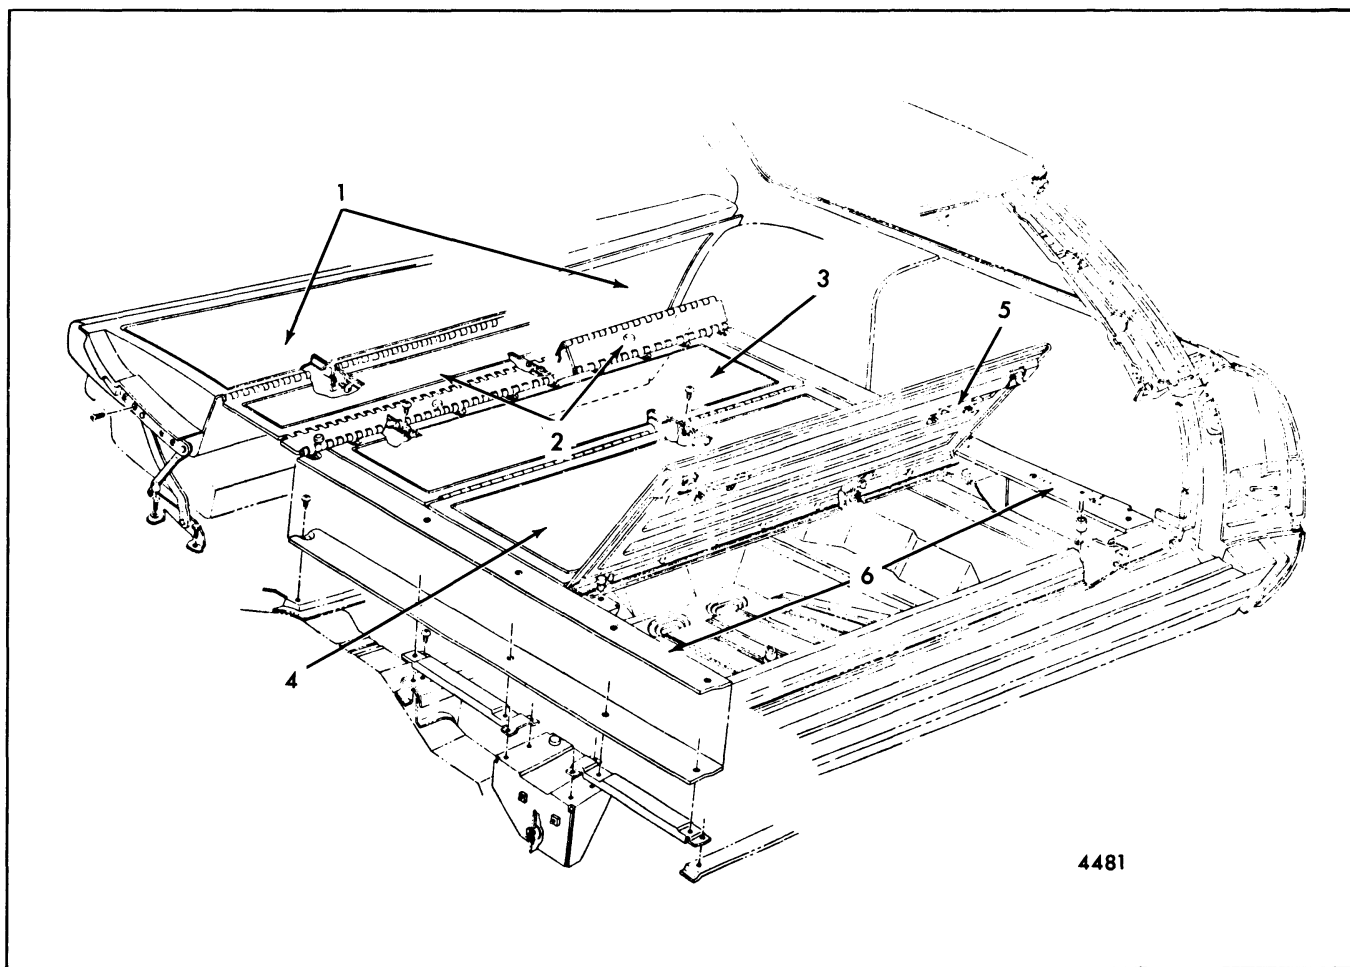

Fig. 9-73-Folding Seats and Load Floor Panels - "A and B" Body Two-Seat Styles
2. Figure 9-73 is typical of All Two-Seat Station Wagon Styles.